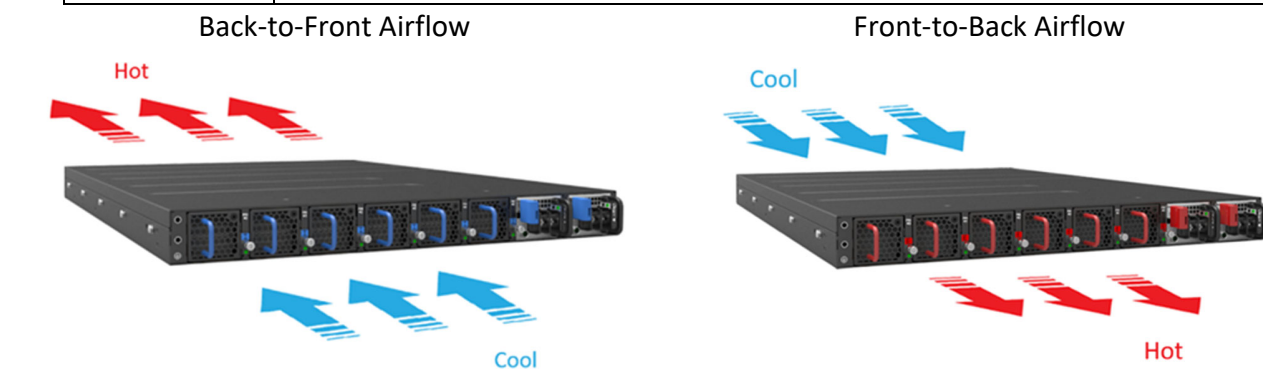

Figure 3.
- Cooling: The S9300-32D has two options for airflow direction. There is a back-to-front option (Figure 3. Left) and a front-to-back option (Figure 3. Right). Make sure the equipment on the same rack have the same airflow direction.